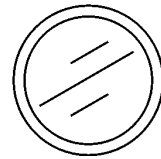

Figure 21. Status Indicator Lights
4. Observe that the **Battery** and **Oil Pressure** status indicator lights are **ON** (Figure 21).
- C. The **Oil Pressure** and **Battery indicator** lights (Figure 21) should be **OFF**.